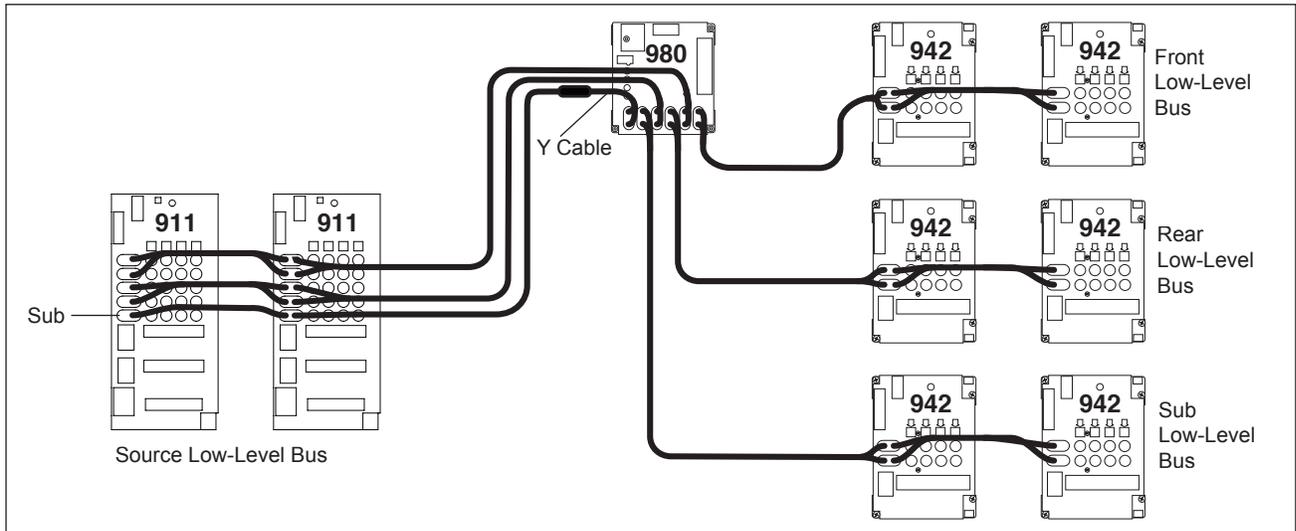

Figure 29. Low-Level Bus Illustration.
- Connect the 911 output bus to the 980 System Module input bus; connect the 980's output bus to the amplifier bus input. The 980 has inputs and outputs to feed processor output signals to front, rear, and sub amplifier groups (See Figure 29).